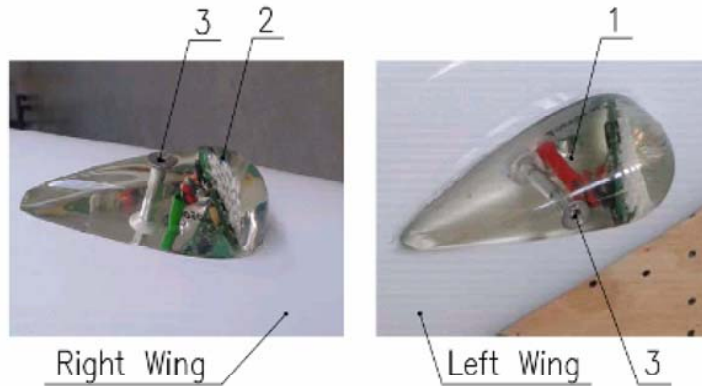

Fig. 33-40-5
1	Using hex-head screwdriver 3mm unscrew bolt item 3 that hold the position light (Fig. 33-40-5).
4	Install position light in correct position. Using hex-head screwdriver 3mm screw bolt item 3 that hold the position light (Fig. 33-40-5).